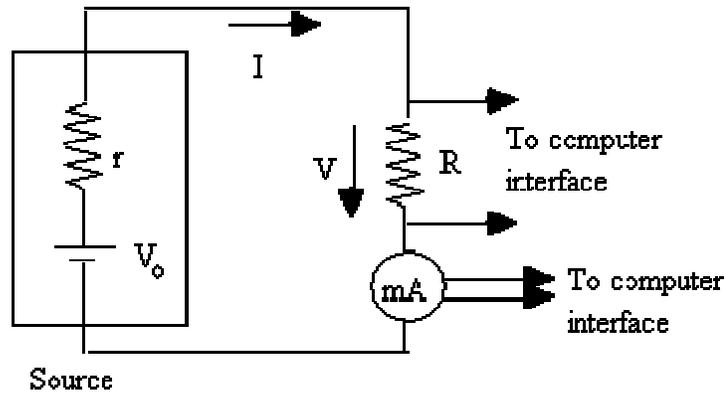

Figure 1
In this experiment, we will only look at the power aspect of impedance matching, and we will use the DC voltage only. Namely, we are going to study a special case of impedance matching -- resistance matching. As shown in Figure 1, the load resistor  $R$  is connected to a source with an internal resistance  $r$ . Do not expect the internal resistance to be small, because most electronic devices have significant output impedance and our experiment is a simulation of the electronic impedance matching.
1. Construct a circuit as shown in Figure 1.